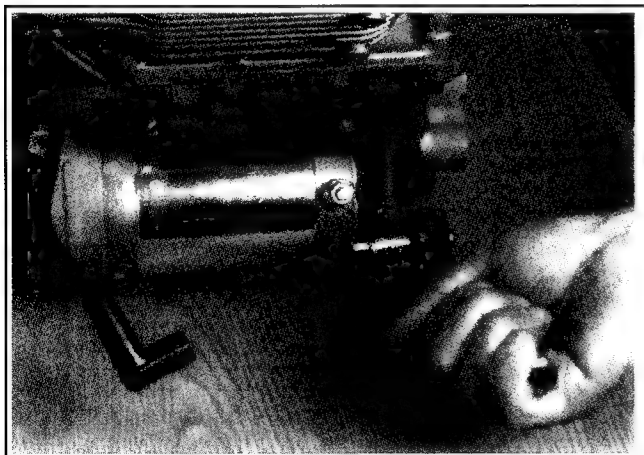

Figure 11-49. Installing Electric Starter Motor.
1. Install electric starter motor by inserting thru bolts into flange of lower crankcase. See Figure 11-49.